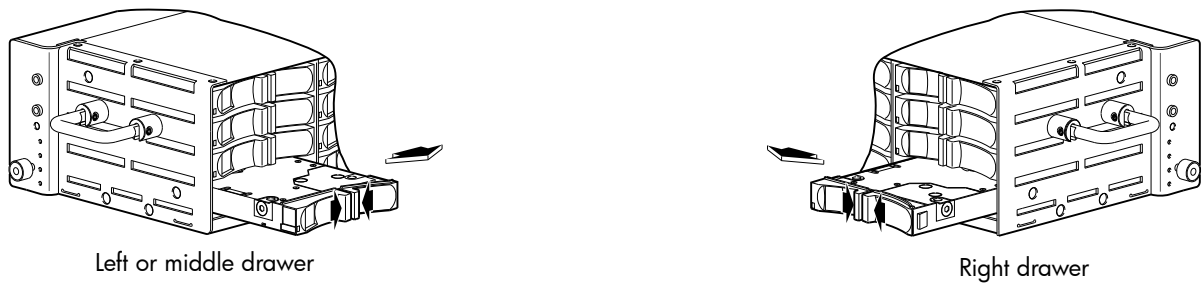

Figure 32 Disengaging a disk drive module (2U48)
Refer to Figure 32 when removing the AMS from the target drawer. If you are extracting from the left or middle drawer, refer to the illustration on the left when performing the step procedure. If you are extracting from the right drawer, refer to the illustration on the right when performing this step-procedure.
1. Squeeze the latch release flanges together to release the locking-nib on the right side of the sled from the drawer cage wall, and disengage the disk drive module from its connector on the drawer PCBA (see illustration for appropriate drawer in Figure 32 on page 45).